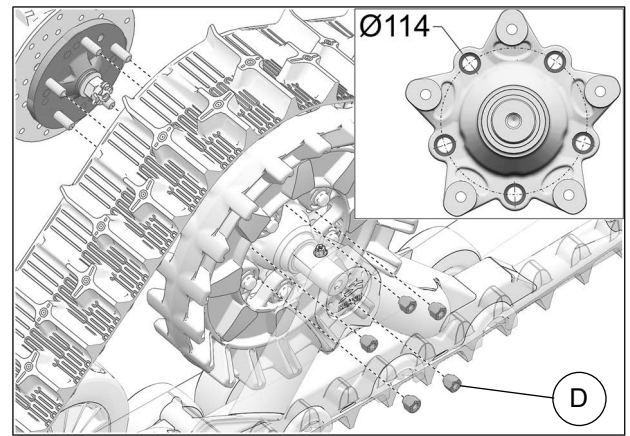

Fig. 17
9. Secure undercarriage to front hub using the lug nuts (D) provided. Use bolt circle $\varnothing 114$ mm. See Fig. 17